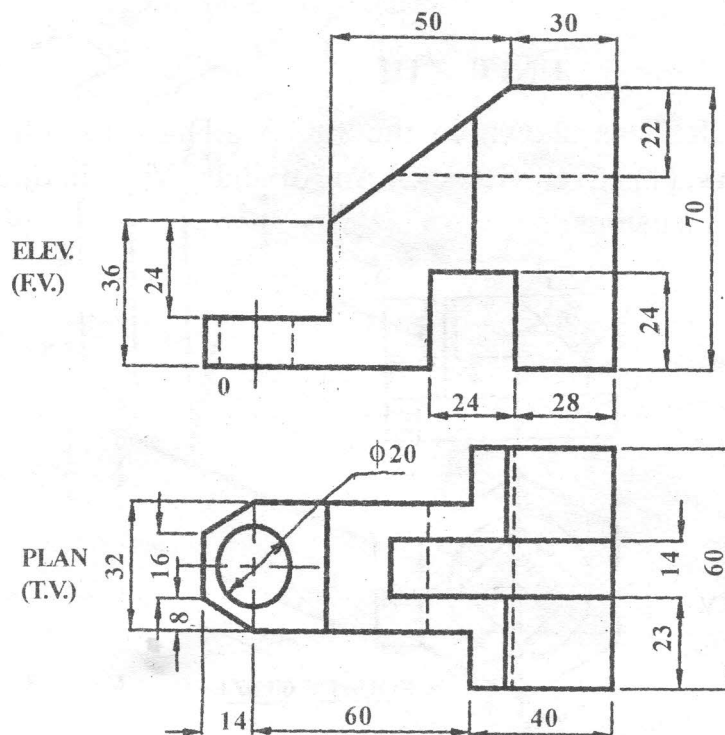

Fig. 5
- Q.7)** Elevation and Plan of an object are shown in **fig. 5** : Draw its Isometric View about 'O' and give overall dimensions. [17+3=20]